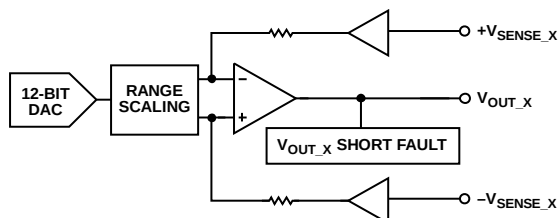

Figure 70. Voltage Output
- Buffered and scaled to output a software selectable unipolar or bipolar voltage range (see Figure 70)